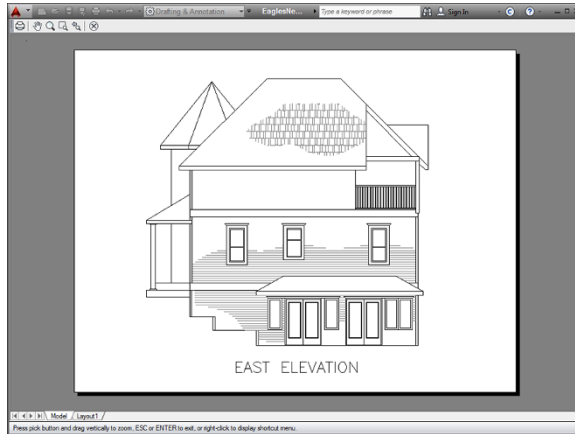

FIGURE 16-3:
- 14. Click the Preview button to ensure that the drawing appears on the paper at the correct orientation and size, as shown in Figure 16-3, and then right-click and choose Exit to return to the Plot dialog box.**